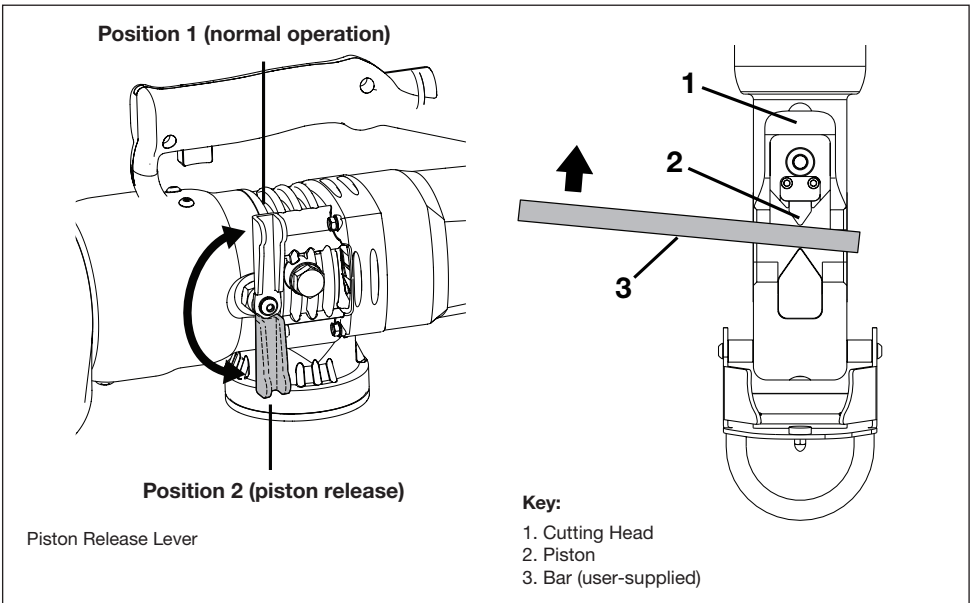

Figure 17, Piston Manual Retract Procedure
3. Move the piston release lever counterclockwise to manually release the piston. See Figure 17, position 2.
4. Using a rigid piece of steel bar, manually push the piston inside the cutter until it is returned to the “home” position. See Figure 17, item 3. This should dislodge any dirt or other material that had prevented the piston from returning during normal operation.
5. Move the piston release lever fully clockwise to return the cutter to normal operation. See Figure 17, position 1.
8. Clean the exposed portion of the piston. Remove any debris, chips or dirt from this area. See Figure 17, item 2.